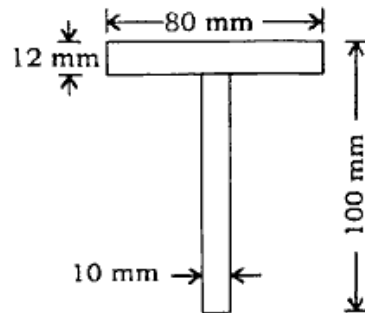

Fig. 2
- (b) Find the shape factor for a T cross-section as shown in Fig. 2 : 8